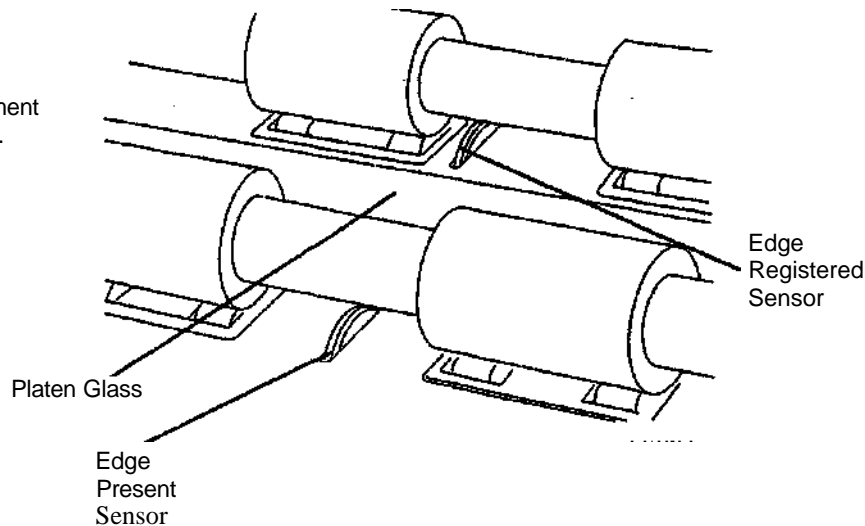

Figure 6-22. Sensors and **Platen** Glass
2. (Figure 6-22): Ensure that the Edge Present Sensor and the Edge Registered Sensor actuate and deactivate freely.